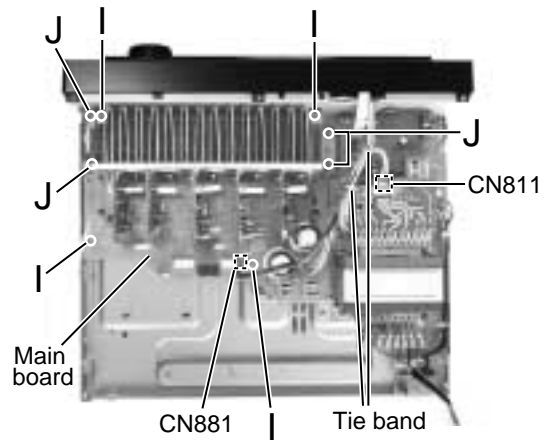

Fig.14
■ **Removing the main board (See Fig.14)**